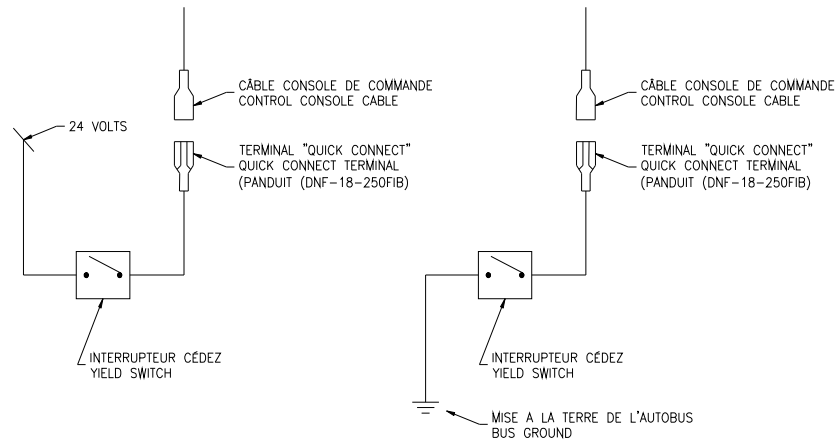

Figure 8: Yield Switch Connection
- Connect the yield signal switch wire to the bus yield switch. (See Figure 8).